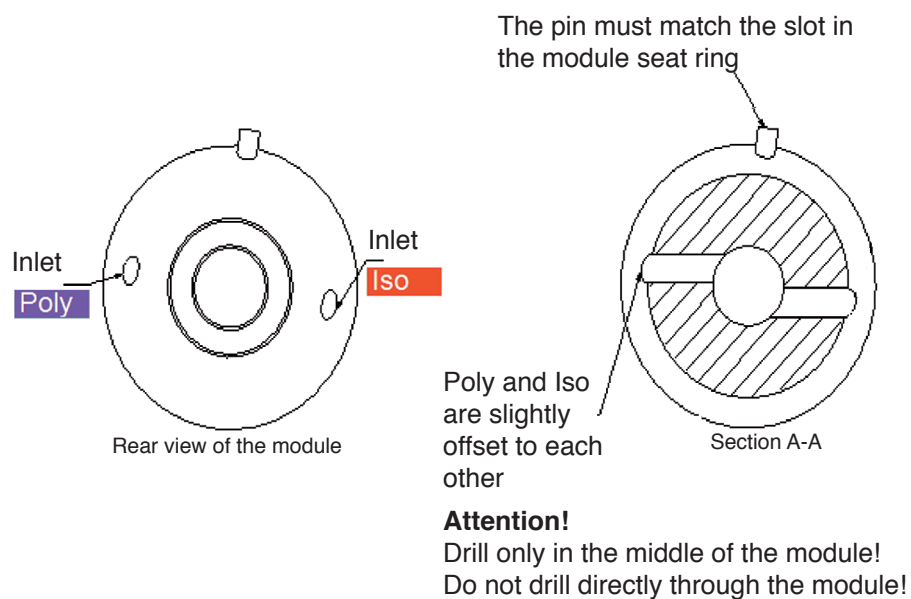

Fig. 12.25
- Press the module firmly into its seat, (Fig. 12.25).